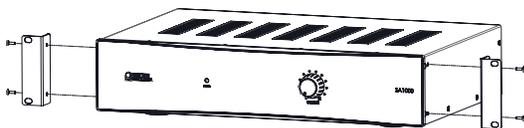

Figure 4
- If applicable and or required by the installation, attach the rack mount brackets to each side of the front of the amplifier using the screws provided. Refer to Figure 4